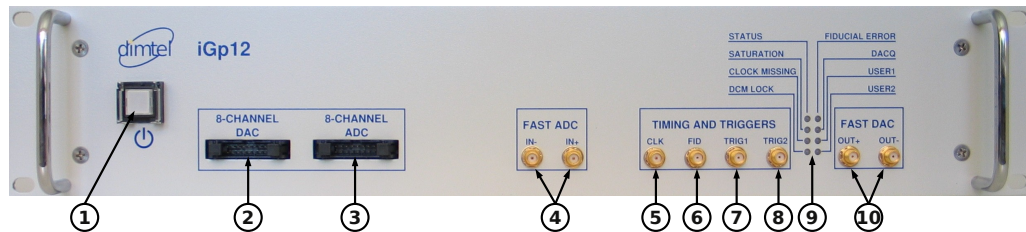

Figure 2: Front panel features
2. Connect RF clock at -3 dBm nominal level (Fig. 2, item 5);
3. Connect single-ended high-speed ADC input signal to Ain+ (Fig. 2, item 4). The FS swing of this signal should be 780 mV peak-to-peak;
4. Connect a 50Ω terminator to Ain- (Fig. 2, item 4);
5. Connect high-speed DAC output(s) (Fig. 2, item 10) to the appropriate back-end unit;
9. Push the power button (Fig 2, item 1) to turn on the system;
11. Push the power button (Fig 2, item 1) to turn the system off;